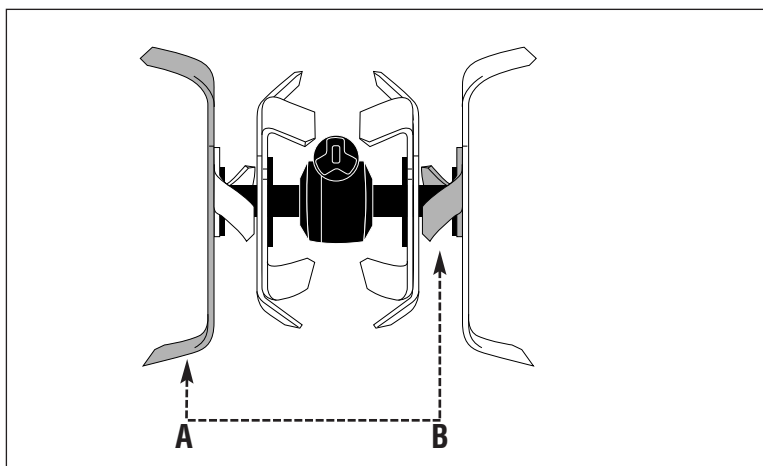

Figure 23: Rotating tines on ECONO HORSE outer holders.
Step 1: Move the tines labelled "A" in Figure 23 (on the left outer holder) to the "B" position (on the right outer holder). Move the tines which were at the "B" position to "A."